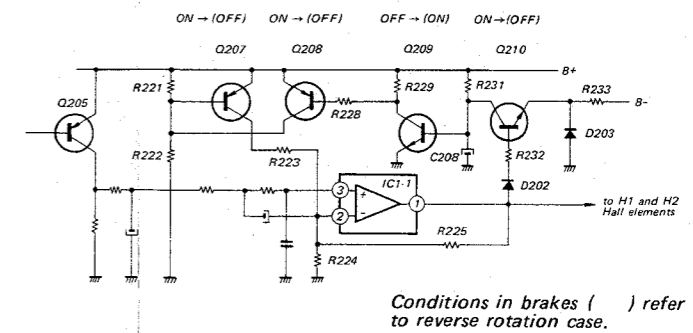

Fig. 2-3.
2. Maintaining Forward Rotation (See Fig. 2-3)